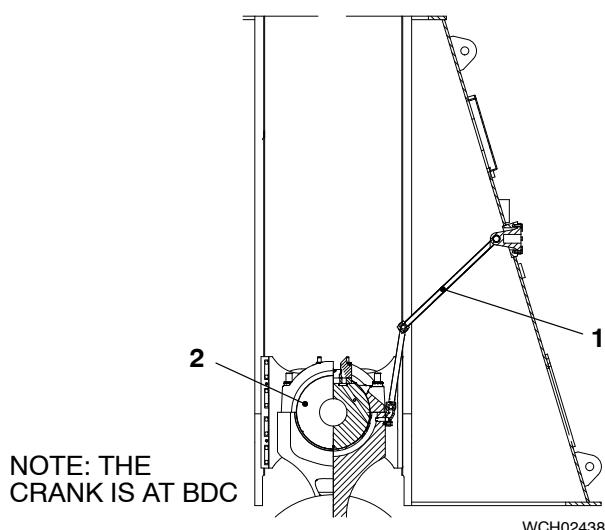

Fig. 14
- 33) Carefully lower the crosshead pin (2, Fig.14) on to the connecting rod.
- 36) Remove the protection from the crosshead pin (2).